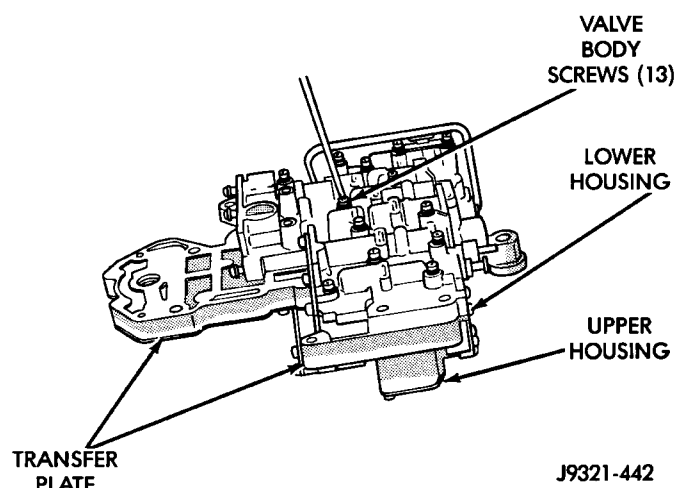

Fig. 82 Installing Lower Housing On Transfer Plate And Upper Housing
(5) Install lower housing on assembled transfer plate and upper housing (Fig. 82).
(6) Install and start all valve body screws by hand except for the screws to hold the boost valve tube brace. Save those screws for later installation. Then tighten screws evenly to 4 N·m (35 in. lbs.) torque. Start at center and work out to sides when tightening screws (Fig. 82).